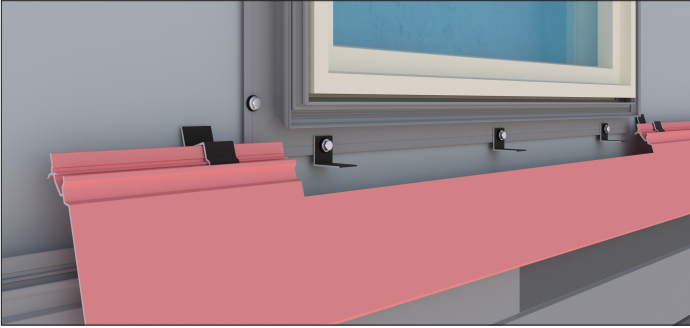
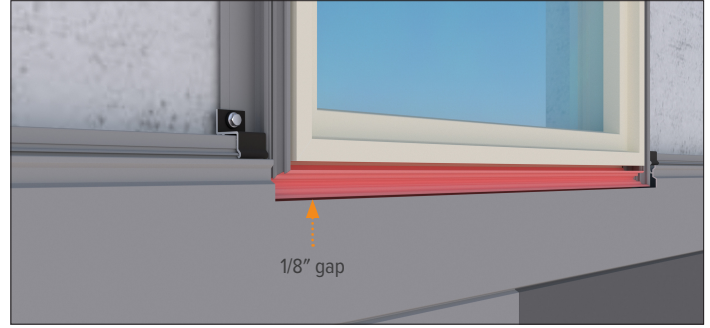

Figure 4.1
Figure 4.2
4. Notch your chosen plank to go around the sill of window (Figure 4.1), ensuring a 1/8" gap is between the horizontal notched plank and horizontal **2-Piece J Trim** back plate (Figure 4.2).